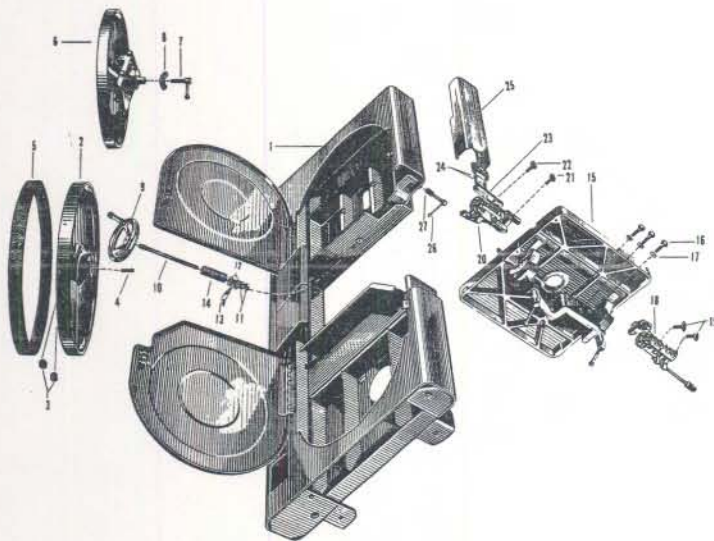

Figure 3. Band Saw Assembly - Bench Model
2-13 TABLE ASSEMBLY. (figure 3) In order to remove the table it is necessary to remove the blade as mentioned in paragraphs 1-10 and 1-11. Raise telescoping guard (Figure 3-2, item 4) and remove table locking nuts to lift off table.